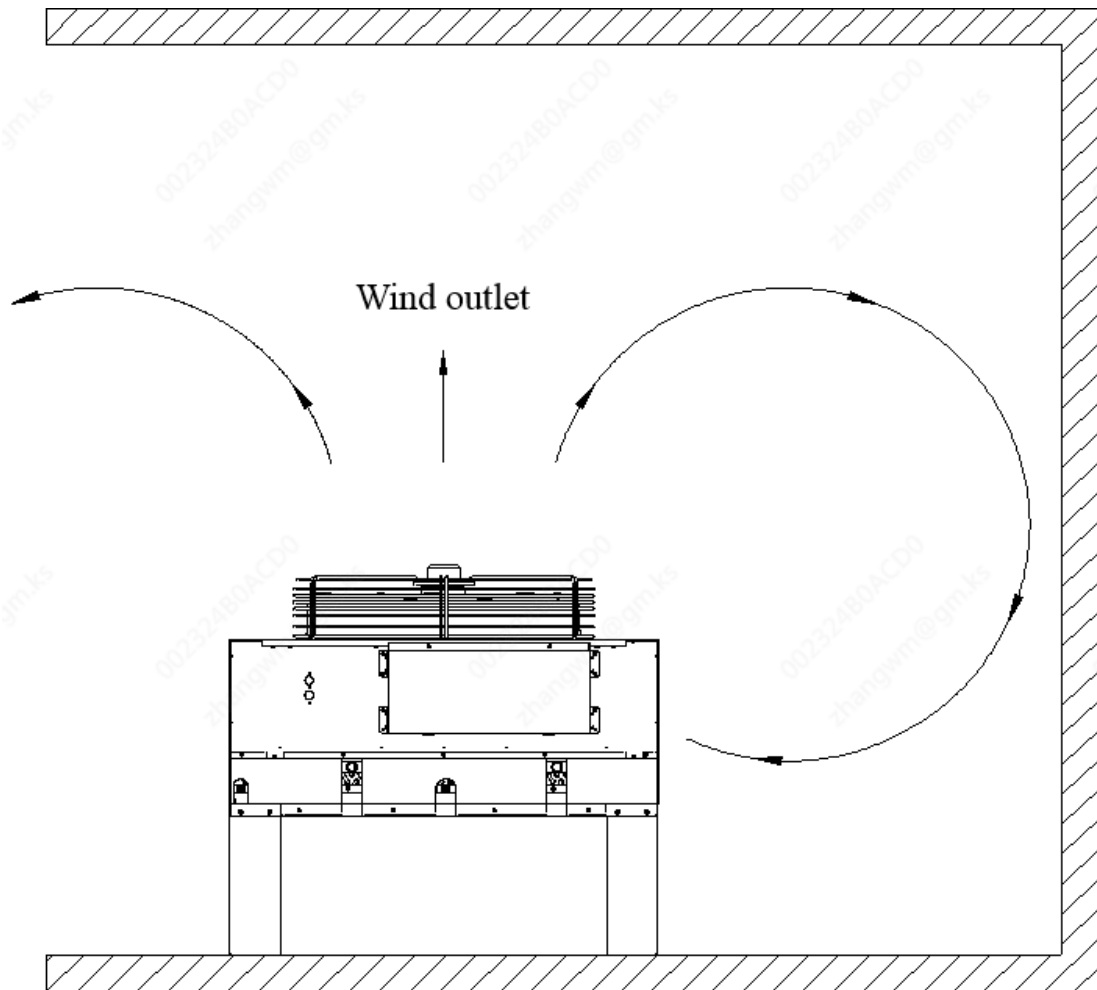

Fig. 2-3 Schematic diagram of horizontal installation of hot air short circuit
3. The air outlet of the ECONO air-cooled flat type condenser should avoid short circuit of hot air, which will result in poor heat exchange effect, as shown in Fig. 2-3.